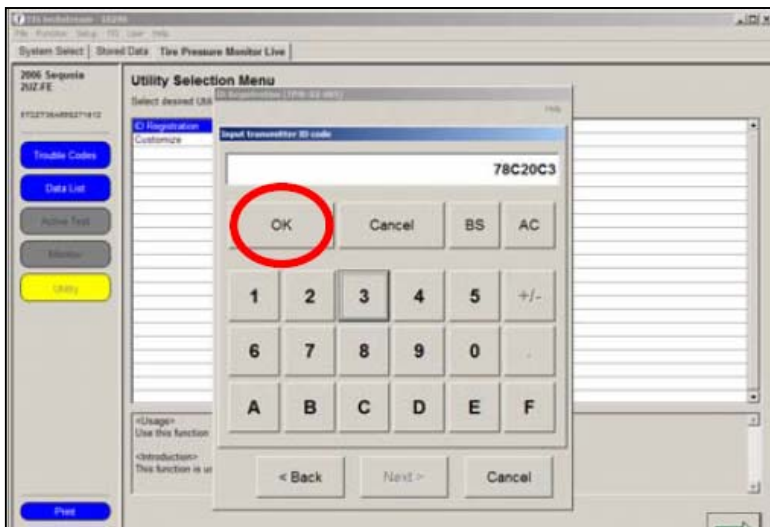

Figure 14g
- j. Input the TPMS ID code then click OK. Repeat the same procedure for all other TPMS ID codes. See Figure 14g.